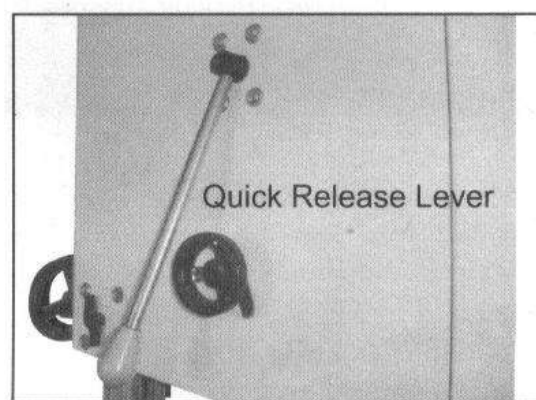

Fig.14
c) Release the blade tension by rotating the quick release lever (Fig.14) clockwise.
f) Re-tension the new blade by rotating the quick release lever (Fig.14) counterclockwise and check the blade tracking. The blade should turn in the center of the bandwheel. Refer to “Tracking the Saw Blade” on page 6 for more details.